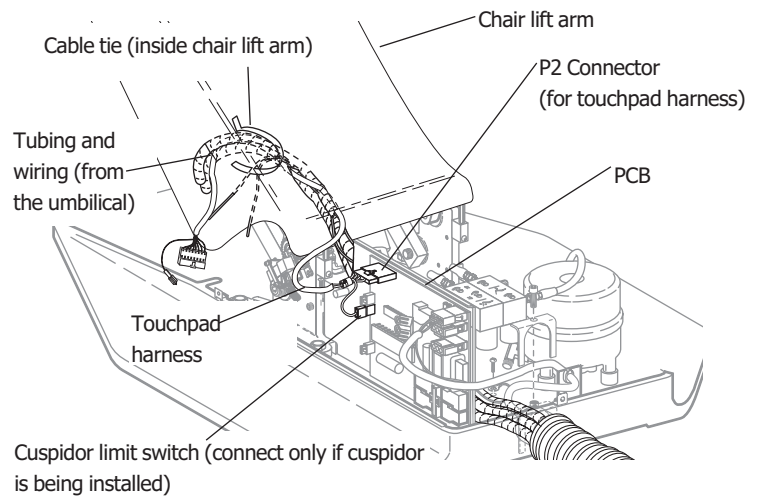

Figure 10
- Route the umbilical tubing and wiring beneath the lift arm and to the back of the lift arm (see Figure 10).
- Plug the touchpad harness (10-pin terminal) into PCB position P2 (see Figure 10).
- Route the touchpad harness to the back of the lift arm with the umbilical tubing (see Figure 10).
- Using the cable ties, secure the umbilical tubing and touchpad harness to the chair lift arm casting (see Figure 10).